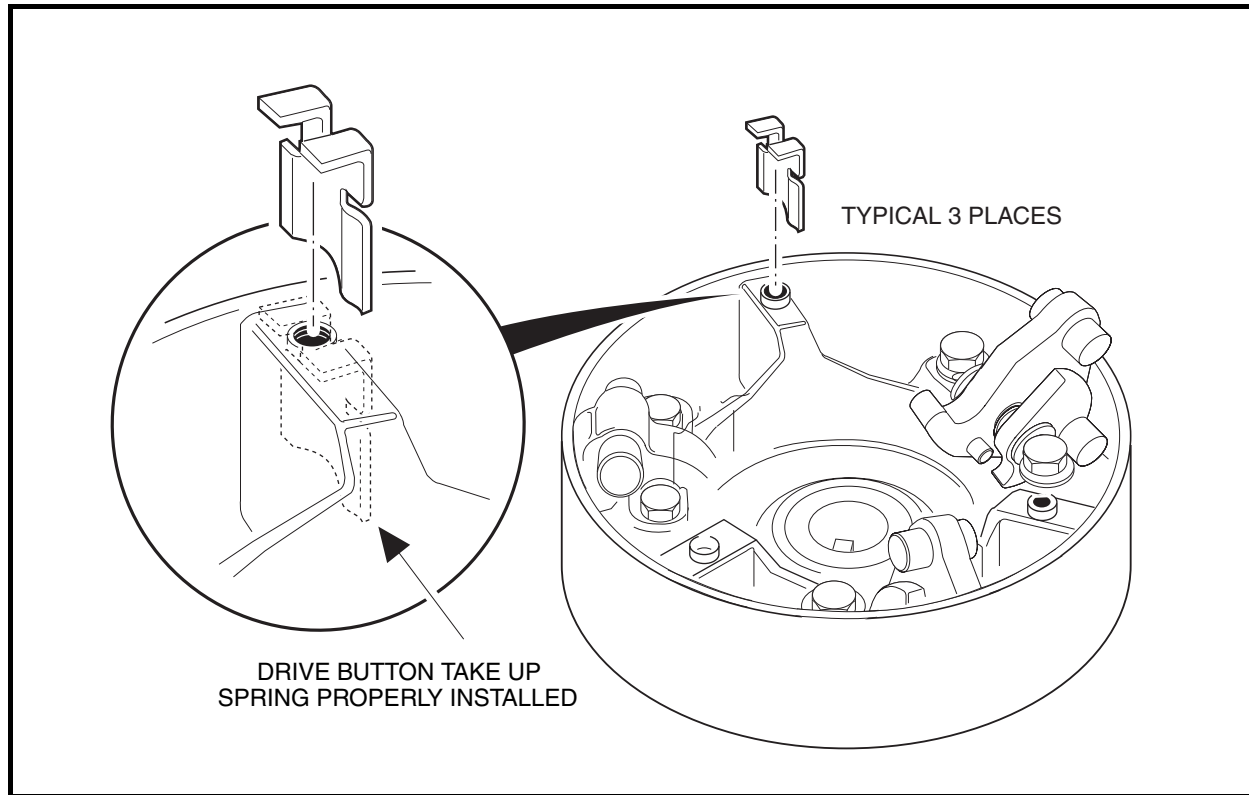

Figure 17-17 Correct Orientation of Drive Button Take-up Spring
- 13.1. Install a spring on the right side of each of the three button mounting posts (when looking into the interior of the clutch cover with the rib at the twelve o'clock position) as shown (**Figure 17-17, Page 17-12**).